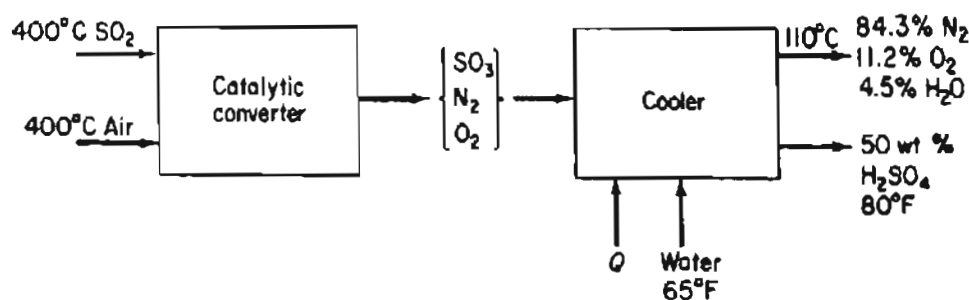

Figure SAT28.2P2
2. Calculate the heat that must be added or removed per ton of 50 wt % H₂SO₄ produced by the process shown in Figure SAT28.2P2.